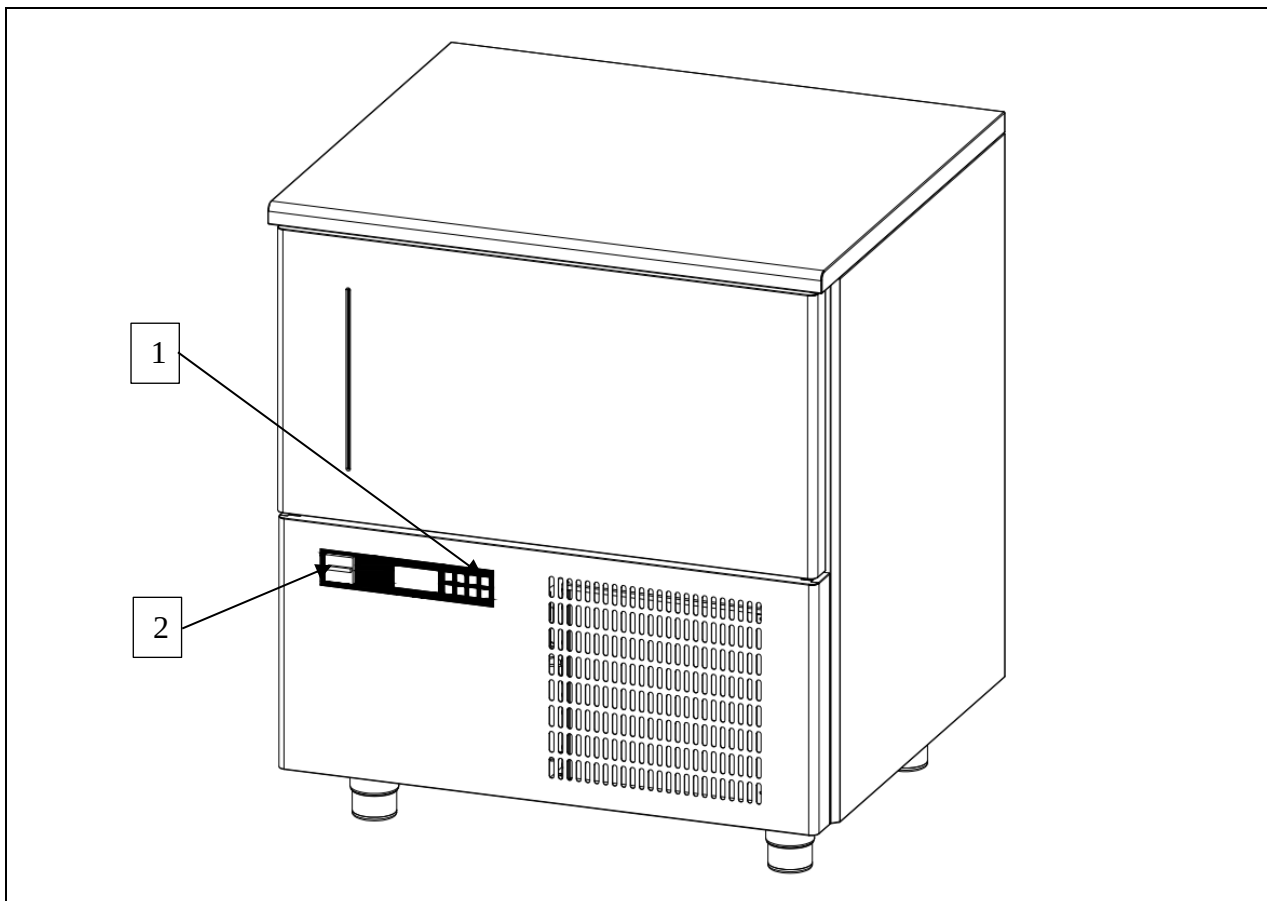

Fig. 3
1 fig. 3). Whatever condition the machine is in, holding down the  button for 3 seconds sets in standby the machine. Whatever condition the machine is in, switching off the main switch (ref. 2 fig. 3) cuts out the circuit board.